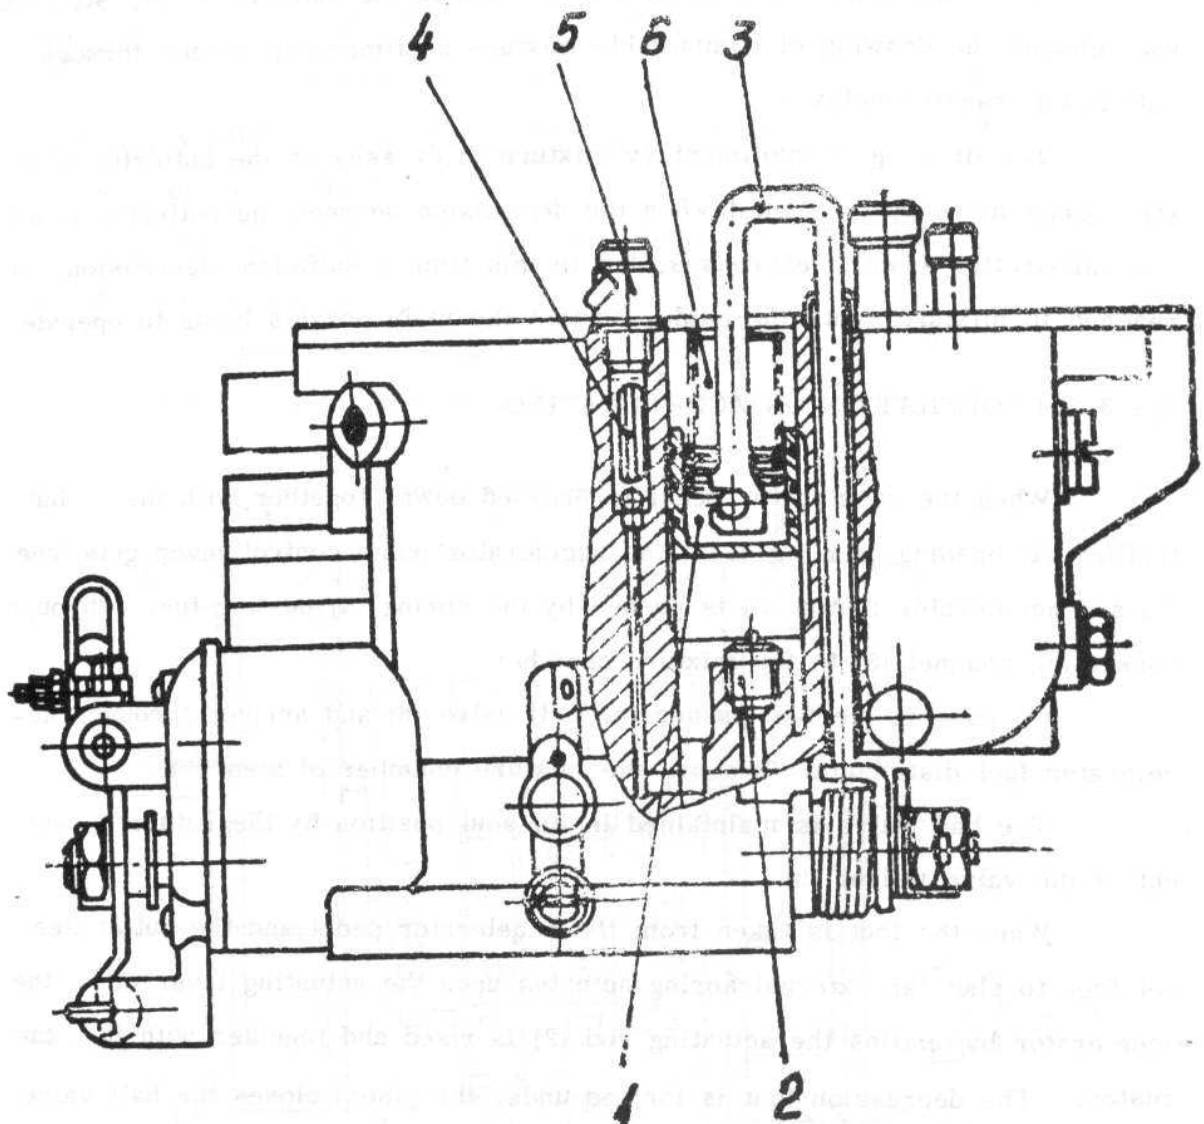

Fig. 4.10. CARBURETTOR ACCELERATION MECHANISM
When the accelerator pedal is pressed down, together with the butterflies (1) opening (see fig. 4.10) the accelerator pump control lever gets free (2) and accelerator piston (3) is pushed by the spring (4) pushing fuel through connecting channel (5) to the mixture chamber.